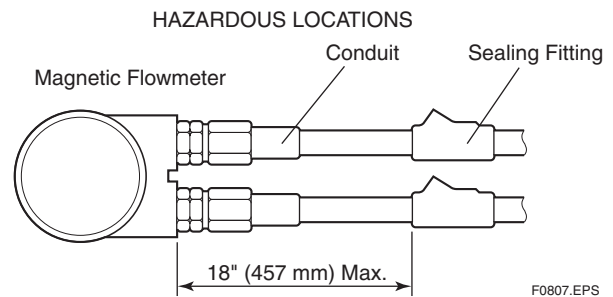

Figure 8.2 Conduit Wiring
- In hazardous locations, wiring to be in conduit as shown in Figure 8.2.